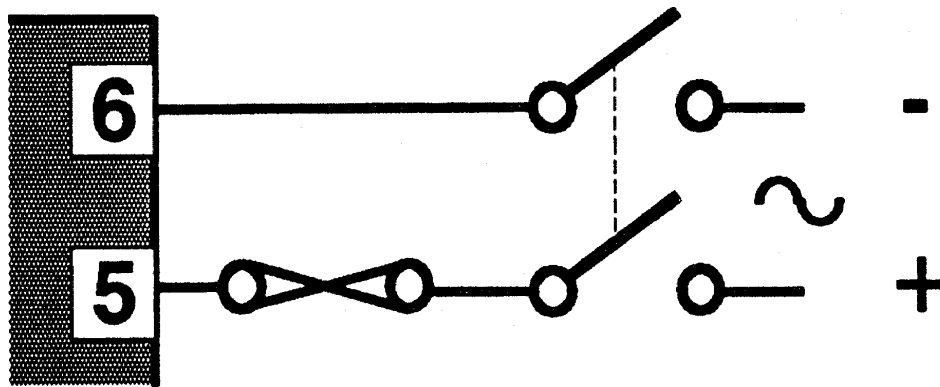

**FIGURE 2-2** Mains (Line) Supply Connections
**CAUTION:** This equipment is designed for installation in an enclosure which provides adequate protection against electric shock. Local regulations regarding electrical installation should be rigidly observed. Consideration should be given to prevention of access to the power terminations by unauthorized personnel. Power should be connected via a two-pole isolating switch (preferably situated near the Instrument) and a 1A fuse, as shown in Figure 2-2.